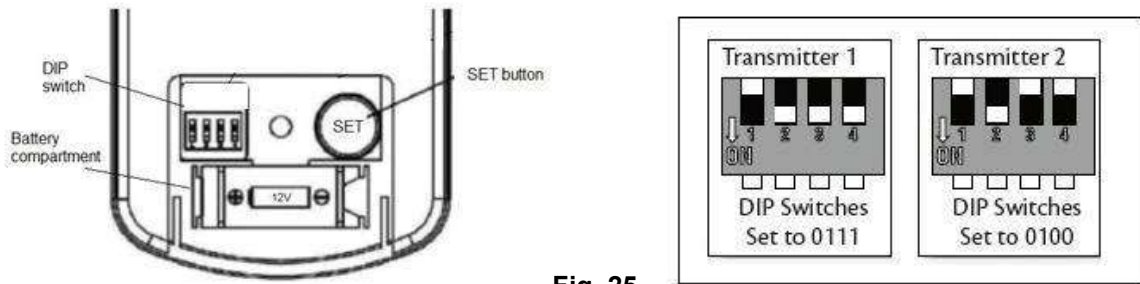

Fig. 25
- ◆ Change the position of the DIP switches in the remote transmitter 1, so that it will be different to transmitter 2. Fig. 25
- ◆ Change the position of the DIP switches in the remote transmitter 2, so that it will be different to transmitter 1. Fig. 25